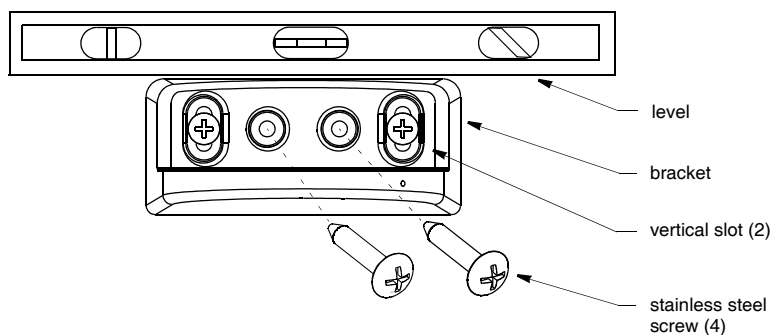

Figure 1. Mounting the bracket
1. At the selected mounting location, draw a level line using a torpedo level (Figure 1).